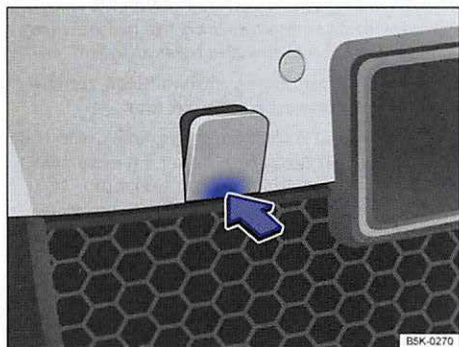

Fig. 179 In right front bumper: Remove cover.
- Push on the cover at the bottom marking $\Rightarrow$ fig. 179 (arrow) so that it pops out.